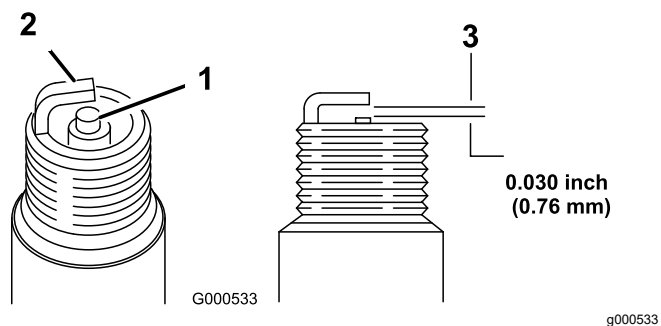

Figure 30
- Set the gap on the plug to 0.76 mm (0.030 inch); refer to Figure 30.